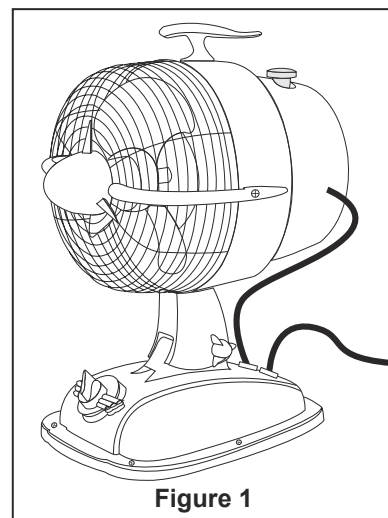

Figure 1
- ☐ 1. Carefully remove from package. Plug cord directly into the socket. (Figure 1)